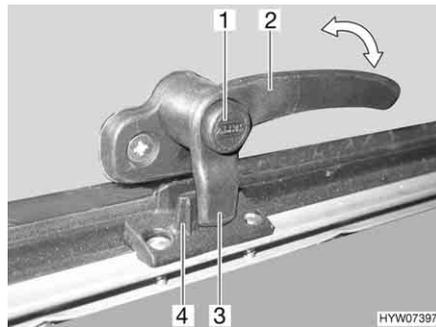
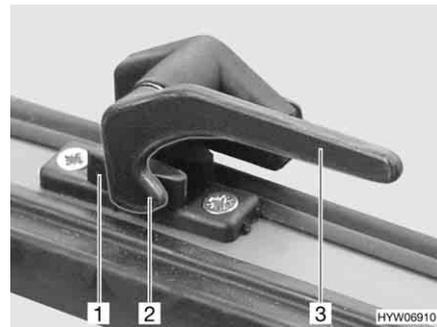

Fig. 62 Catch lever with safety knob in "closed" position
Fig. 63 Catch lever in "closed" position
- Press and hold the security button (Fig. 62, 1), if present.
- Turn the catch lever (Fig. 62, 2 or Fig. 63, 3) a quarter turn towards the centre of the window.
- Turn the catch lever (Fig. 62, 2 or Fig. 63, 3) a quarter turn towards the window frame. The locking catch (Fig. 62, 3 or Fig. 63, 2) on the catch lever is entirely on the inner side of the window catch (Fig. 62, 4 or Fig. 63, 1).
- Firmly closed (Fig. 62 and Fig. 63)